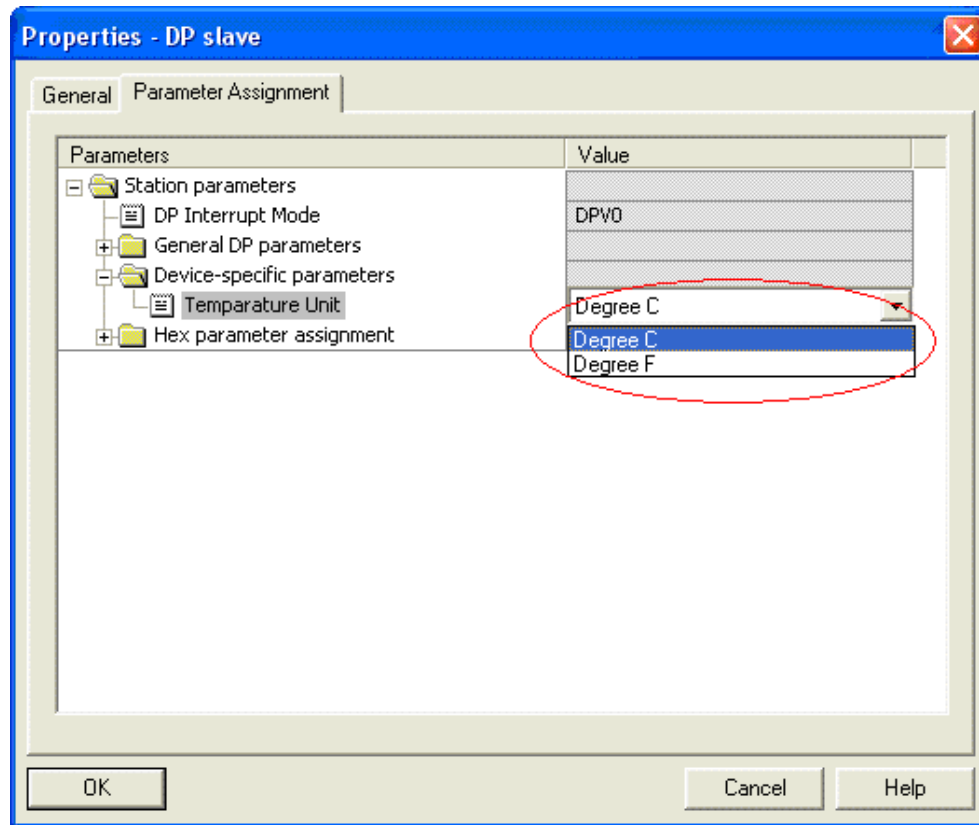

Figure 2d: Changing Temperature Unit for EZ-ZONE® Profibus node in SIMATIC HW Config.
3. Selecting the Temperature Unit (Celsius or Fahrenheit) for input and output data. This parameter is also editable via network configuration tools (Figure 2d).